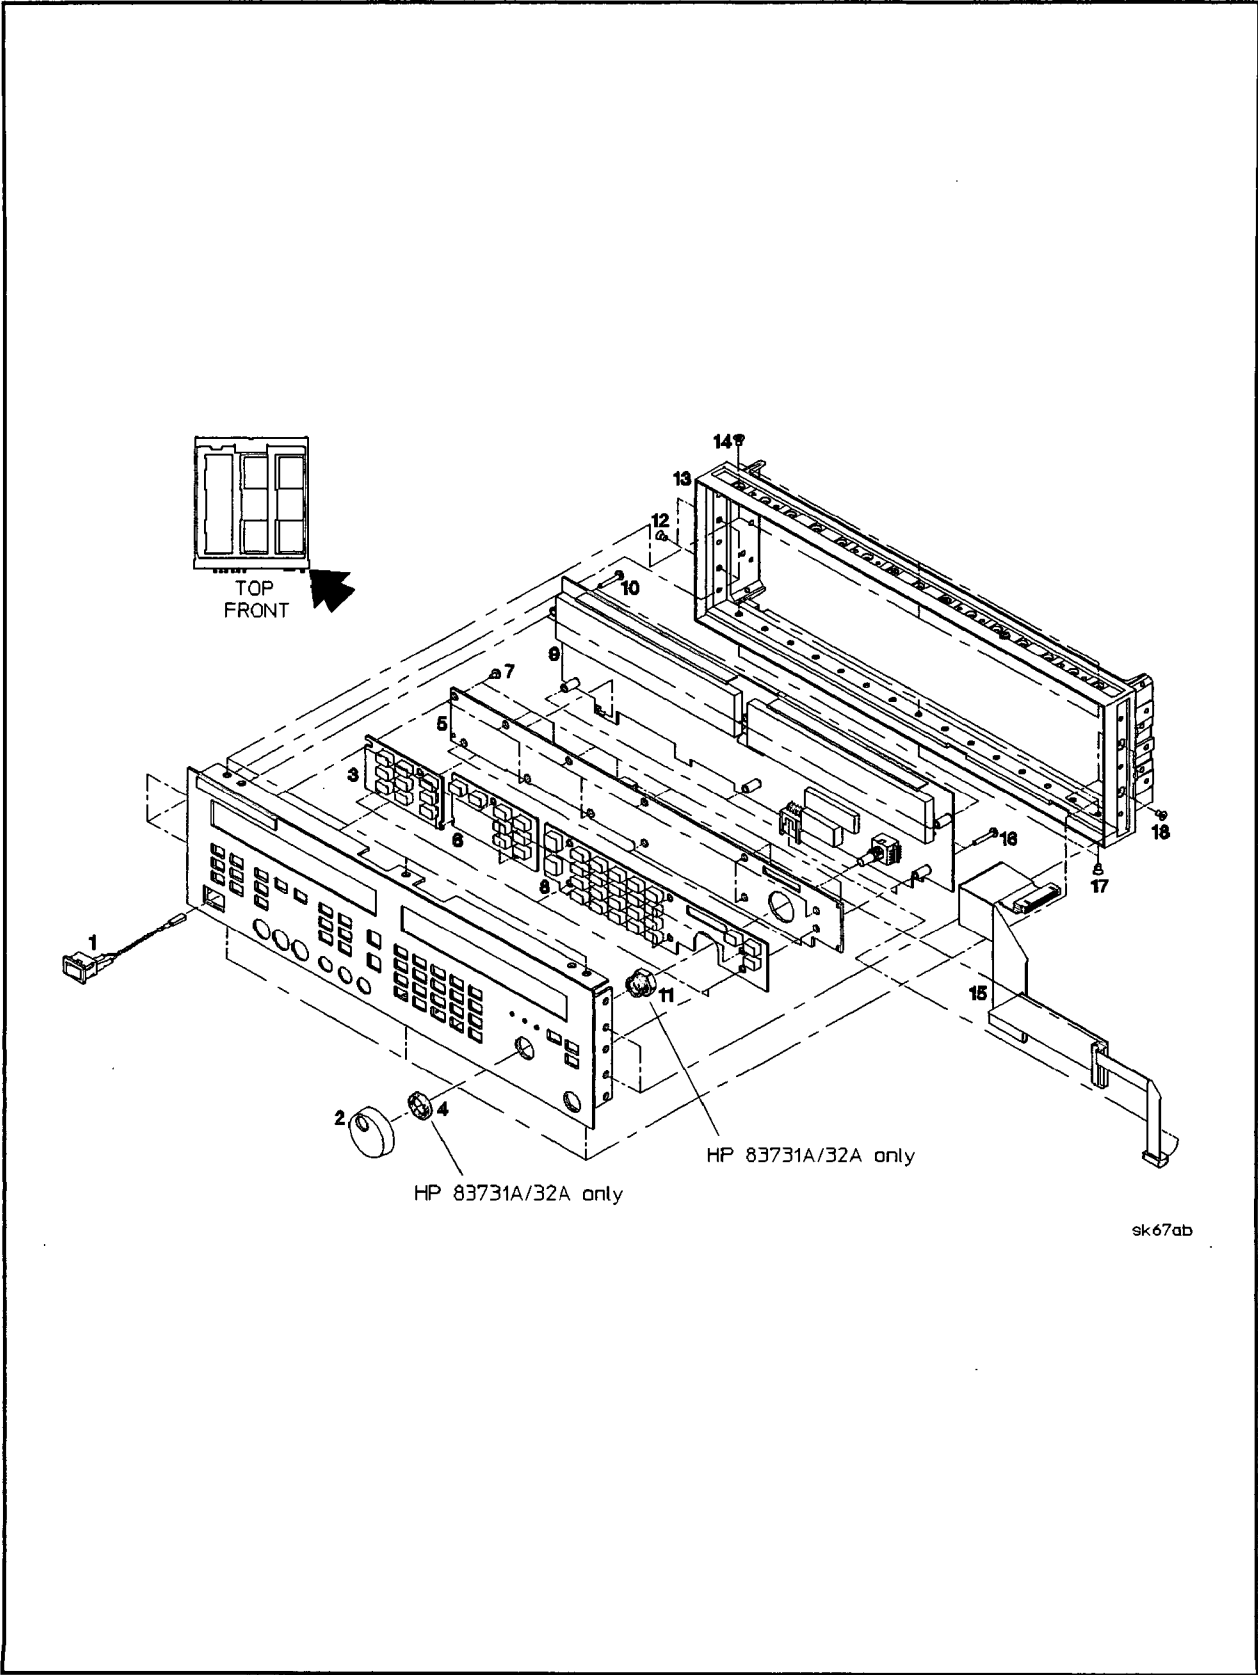

Figure 4-9. Front Frame and Display/Keyboard Illustrated Parts Breakdown
**Table 4-11. Illustrated Replaceable Parts (Figure 4-9)**